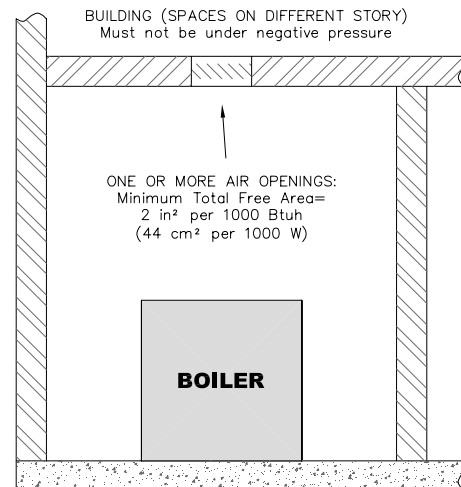

Figure 1.2: Air Openings – All Air from Indoors on Different Floors
- b. **Combining spaces on different floors:** Provide one or more permanent openings communicating with additional spaces that have a total minimum free area of 2 in² per 1000 Btu/hr (44 cm² per 1000 W) of total input rating of all equipment. See Figure 1.2 for an illustration of this arrangement.